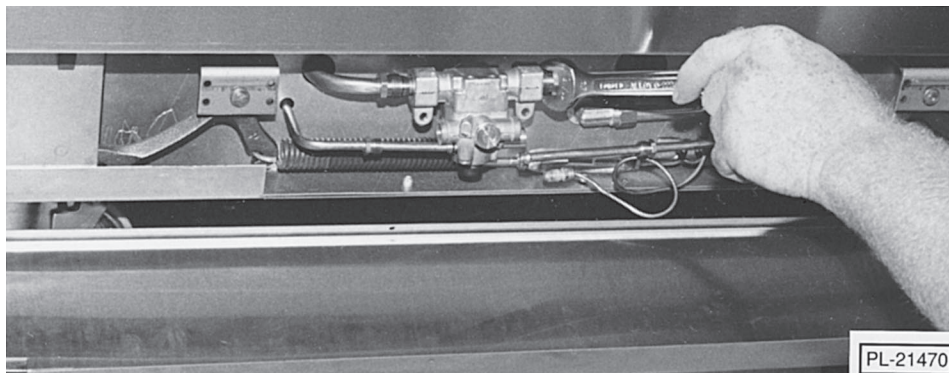

Fig. 40
4. Disconnect right- and left-hand burner gas tubing from the safety valve (Fig. 40).